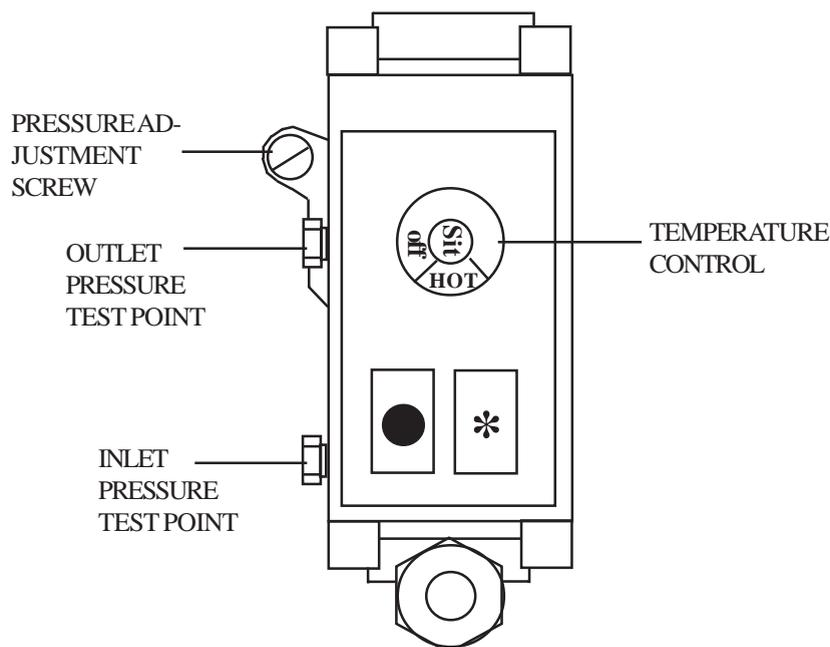

Fig. 3
- 5.4.1 Referring to fig. 3, remove the Outlet Pressure Test Point cover and connect the Gas Pressure Test Gauge.
- 5.4.6 Referring to Fig. 3 and para 2.1, set Multifunctional Control Pressure Adjuster to provide the required pressure setting for the installation.